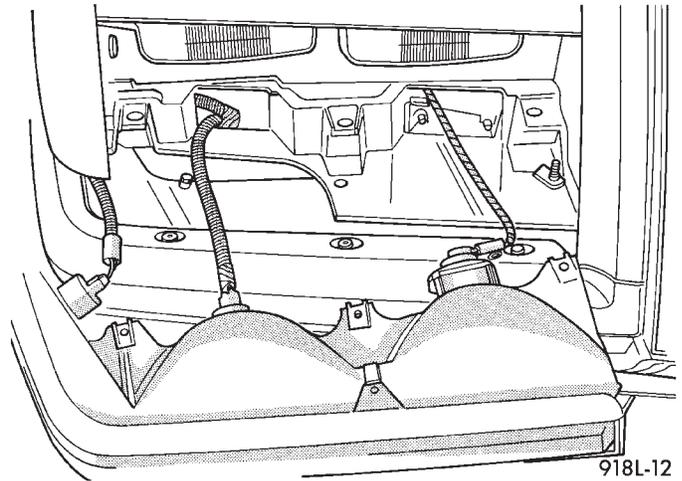

Fig. 6 Turn Signal Lamp
- (4) Remove sockets from lamp and pull bulbs from sockets if bulbs replacement is required (Fig. 6).